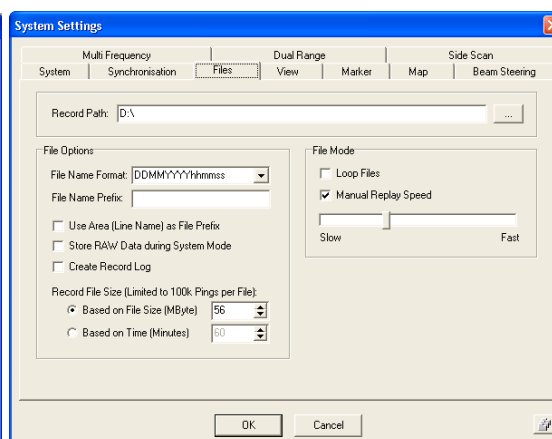

Figure 4: Set file options
- **Record Path:** On board of RV “Heincke” the data will be stored under **C:\ses...ldata\cruise**. File names are generated automatically, based on the File Options (Figure 4).